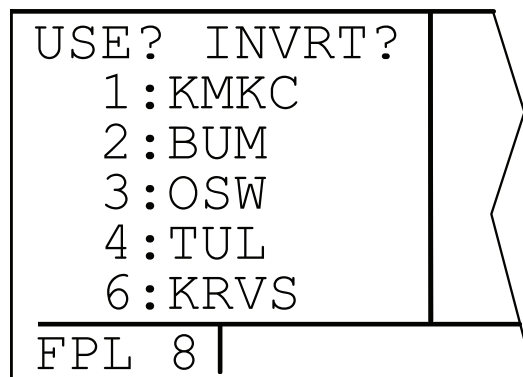

Figure 3D-35. Flight Plan Type Page
1. Rotate the left outer knob to select the flight plan type pages. Refer to Figure 3D-35.
Turn the left inner knob to select a flight plan page, preferably other than FPL 0, which does not contain a flight plan as depicted in Figure 3D-36.